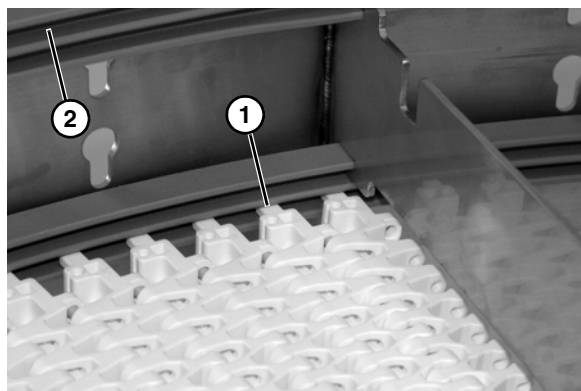

Figure 25
4. Be sure belt tabs are seated in the lower channel of bottom belt guide (Figure 25, item 1) and upper channel of top belt guide (Figure 25, item 2).